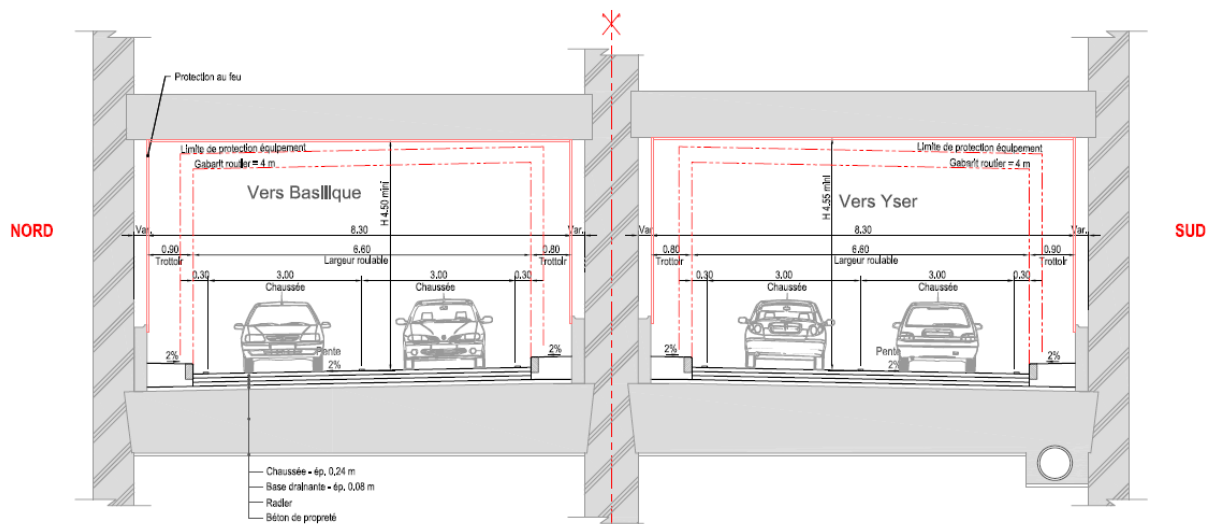
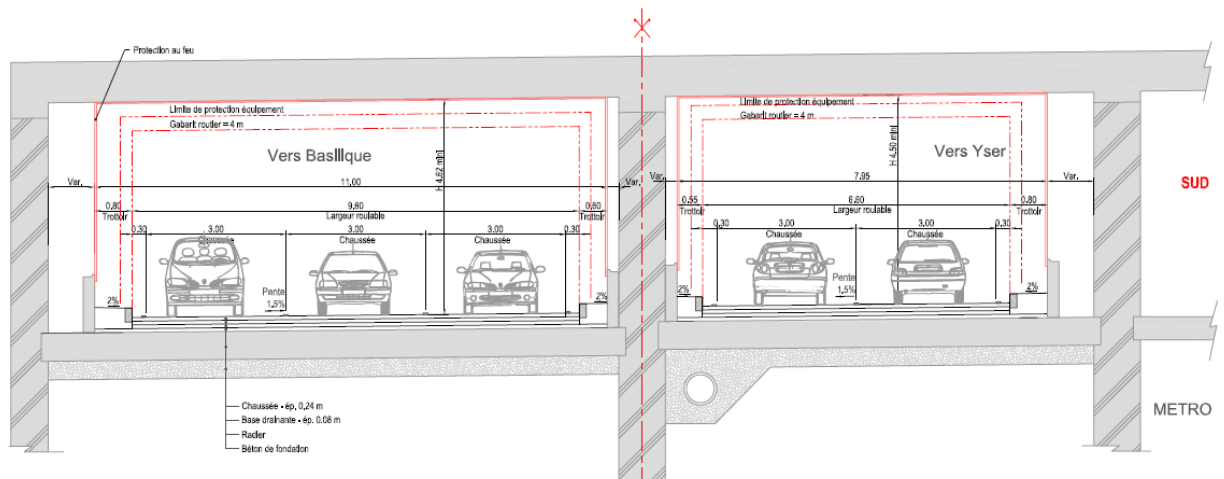

Figure 4 - Leopold II regular cross section
Figure 5 - Leopold II tunnel - cross section near Basillique
- Two lanes in each direction (**Figure 4**), except in front of the merging or exit lanes (**Figure 5**),